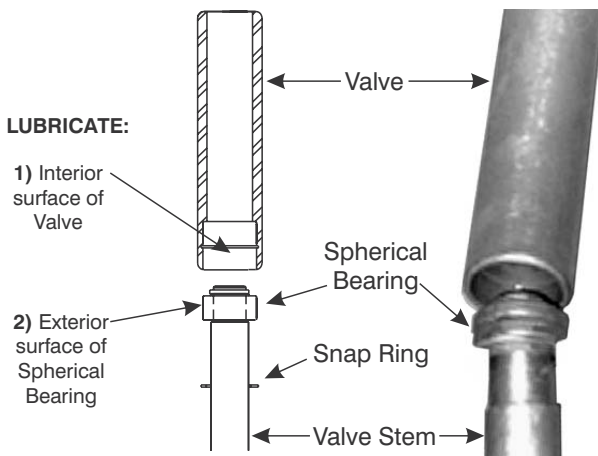

Figure 9-18. Fit Valve onto Spherical Bearing.
1. Collect on a clean flat work bench: the Valve (1) and the Valve Stem with the Spherical Bearing attached per section 9.9.
2. Lubricate the external surface of the Spherical Bearing (2) and the larger internal bore of the Valve (1), as shown in Figure 9-18.
3. By hand, start the larger internal bore of the Valve (1) onto the Spherical Bearing as shown in Figure 9-18. Slide the Valve onto the Spherical Bearing as far as it will go by hand.